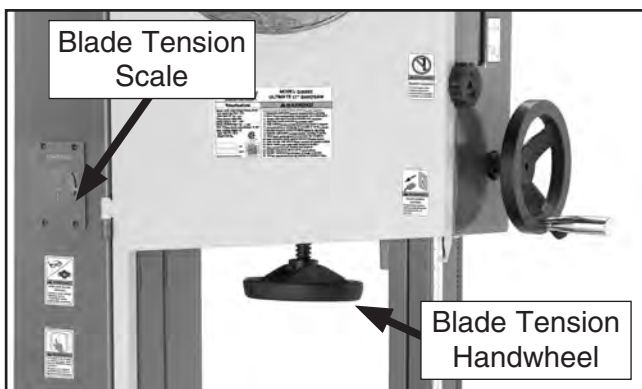

Figure 12. Blade tensioning controls.
3. Move quick tension lever to tightened position and turn blade tension handwheel until blade tension matches the mark on the blade tension scale for appropriate blade thickness (see **Figure 12**).
3. Move quick tension lever to tightened position and turn blade tension handwheel until blade tension matches mark on blade tension scale for appropriate blade thickness (See **Figure 12, Page 19**).